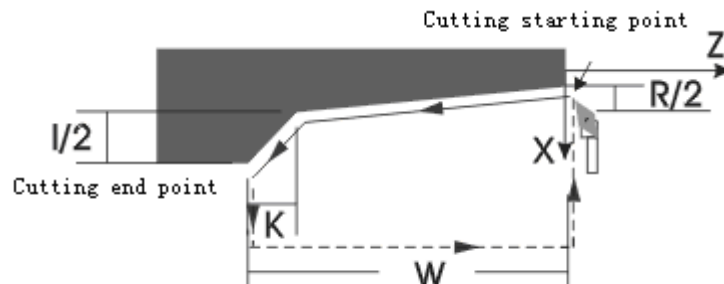

Fig. 4-25
2) G92 axial taper thread: as Fig. 4-25